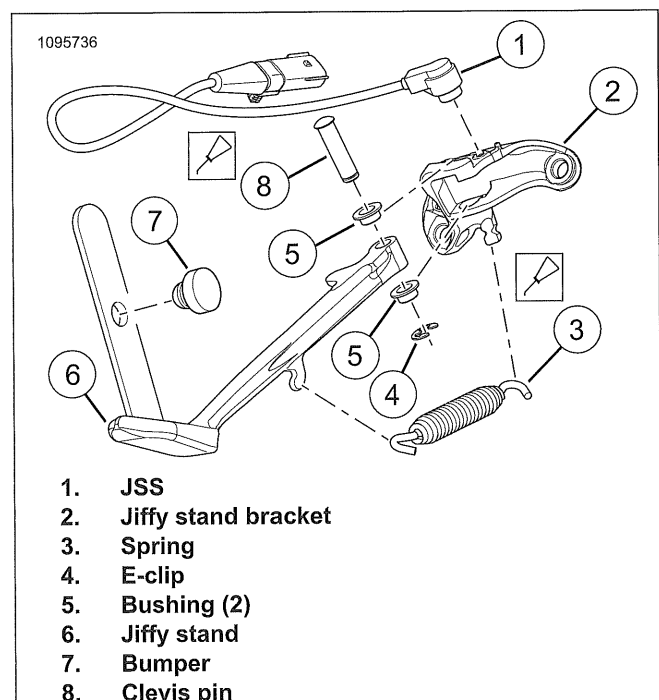

Figure 3-142. Jiffy Stand (Typical)
1. See Figure 3-142. Remove JSS (Jiffy stand sensor) (1), if equipped. See JIFFY STAND SENSOR (JSS) (Page 7-80).
2. Remove spring (3).
3. Remove E-clip (4).
4. Remove clevis pin (8).
5. Remove jiffy stand (6).
6. Remove bushings (5).
8. Remove jiffy stand bumper (7).
1. See Figure 3-142. Install jiffy stand bumper (7).
2. Install bushings (5).
3. Install jiffy stand (6).
4. Apply anti-sieze lubricant to clevis pin (8).